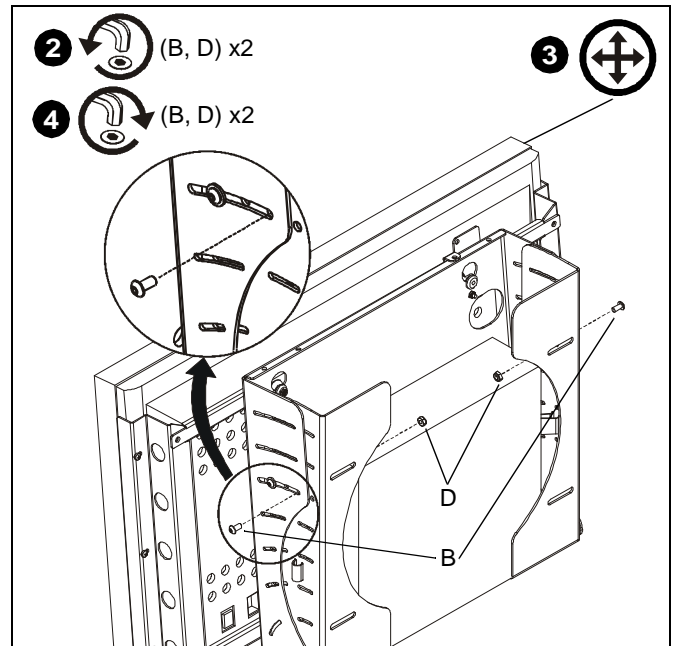
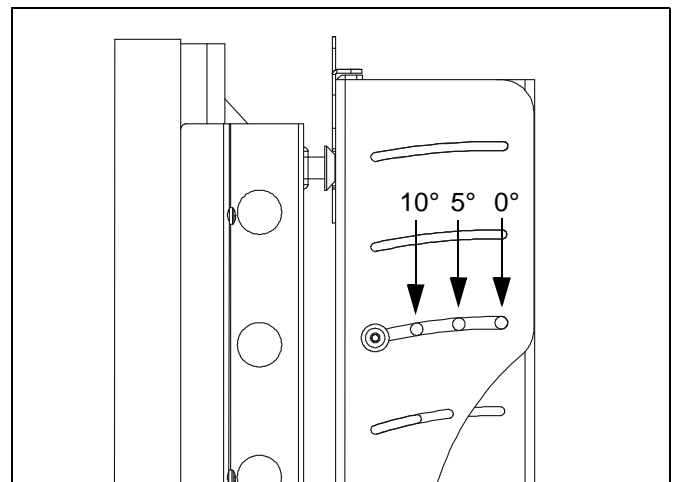

Figure 11
Figure 12
- Using key (F), loosely install screw (B) through slot in front plate and applicable open tilt lock hole in side plate, into nut (D) (See Figure 11)(See Figure 12). Repeat for opposite side.
- Tighten all four screws: upper front plate attach, and (B).